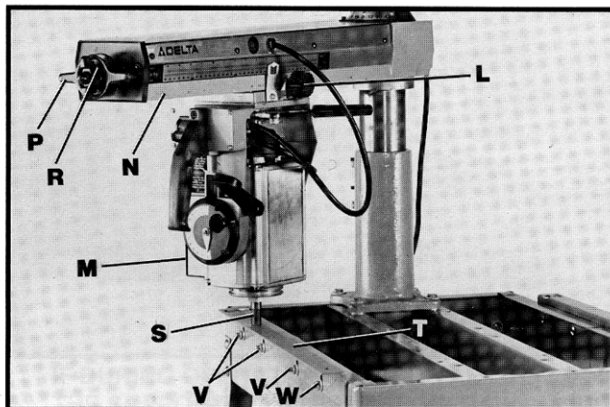

Fig. 23
9. Loosen track arm clamp knob (P) Fig. 23, swing track arm (N) to the left 45 degree position and tighten track arm clamp knob (P).
10. Loosen cuttinghead clamp knob (L) Fig. 23. Slide cuttinghead assembly (M) Fig. 23, inward until arbor shaft (S) is directly over left rear table mounting bracket (T). Check to see if arbor shaft (S) Fig. 23, lightly touches the left rear table mounting bracket (T), similar to the front of the mounting bracket; refer to **STEP 8**.
11. If an adjustment is necessary, loosen three hex nuts (V) Fig. 23, and adjust table mounting bracket (T) until it contacts arbor shaft (S). Tighten hex nuts (V) and (W) Fig. 23. Recheck the height of the left front and rear table mounting bracket (T), to the arbor shaft and readjust if necessary.